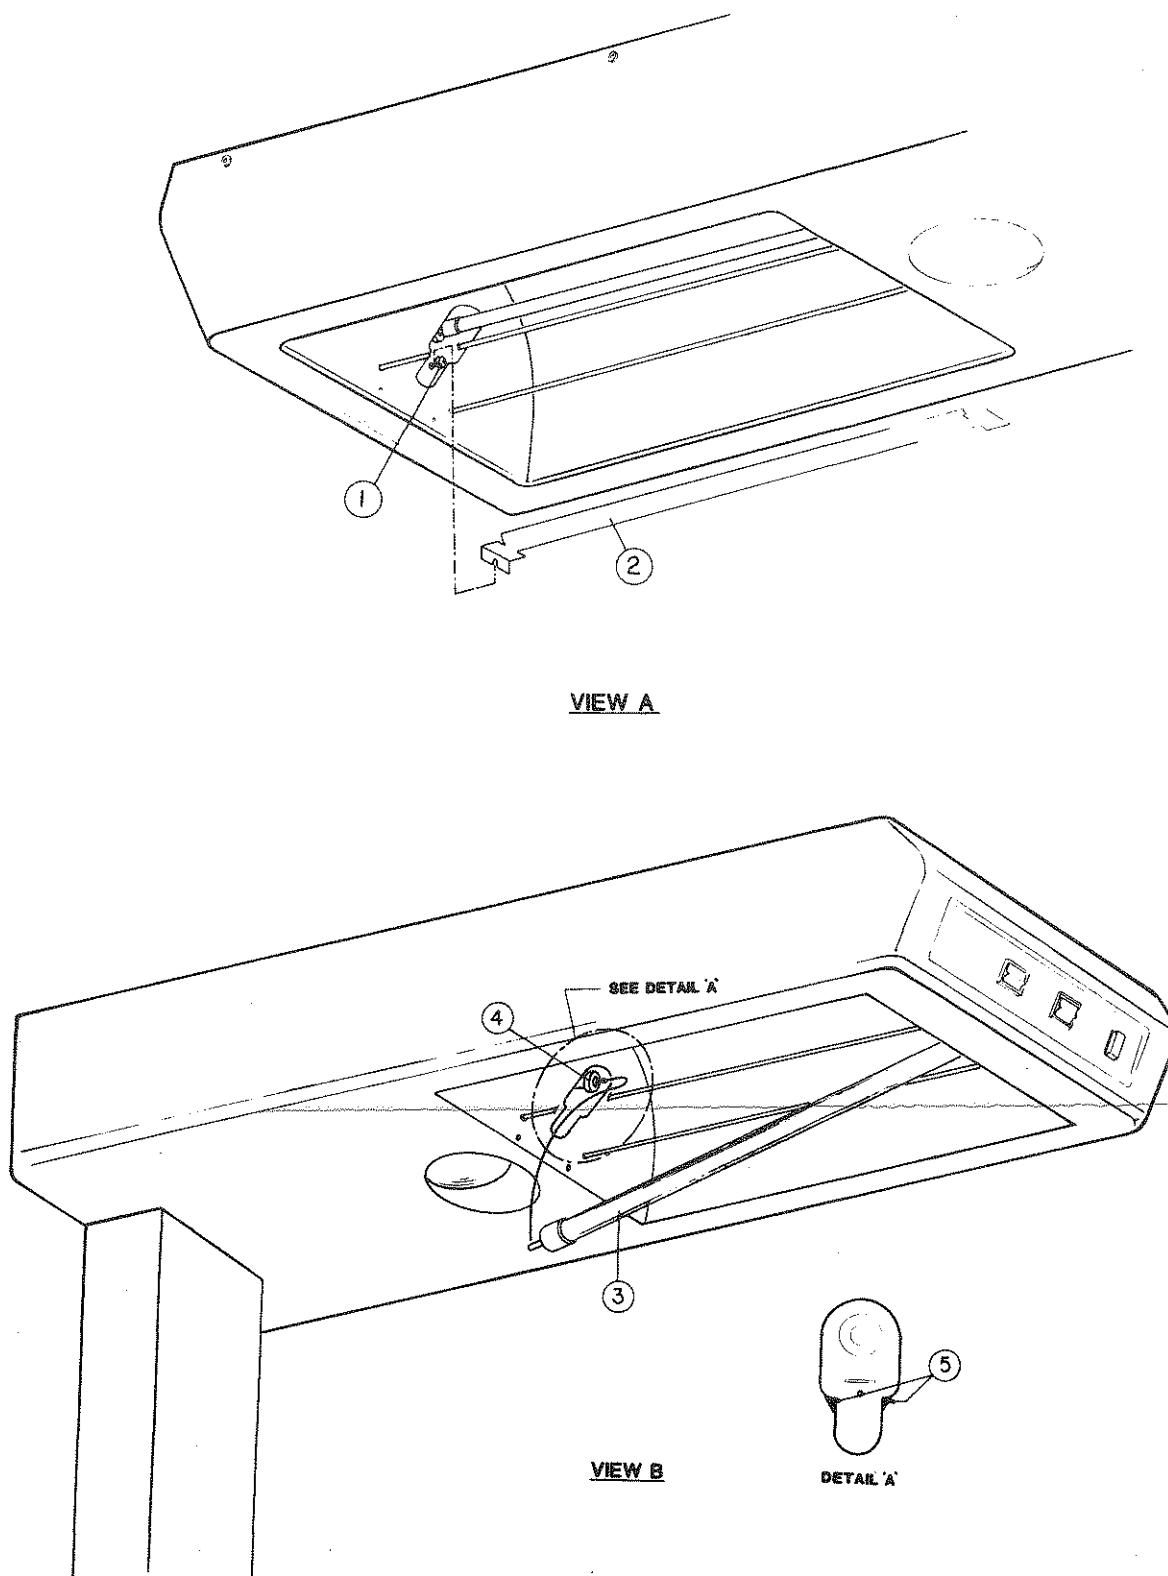

FIGURE 5.5 QUARTZ HEATING ELEMENT REMOVAL AND REPLACEMENT
1. REFER TO FIGURE 5.5, view A, and loosen (do not remove) the mounting screw (1) that secures the curved reflector (2) to the heater support bracket.
3. REFER TO FIGURE 5.5, view B. Grasp the heating element (3) with both hands and push firmly toward the front of the Warmer Module to release the rear end of the heating element from the rear spring-loaded connector (4). Maintain this pressure while lowering the rear end of the heating element until it is removed from this parabolic reflector. Carefully withdraw the front end of the heating element from the front end spring-loaded connector; remove the heating element.
- When installing the replacement heater element, it is important that it be inserted at an angle as shown in Figure 5.5, view B. Insert one end and seat it firmly into the spring-loaded connector and then, in one motion, raise the other end and insert it into the spring-loaded connector at the opposite end.
- When installing the replacement heating element, it may be necessary to bend the tabs (5) in the connector opening slightly to provide adequate clearance in the connector opening.